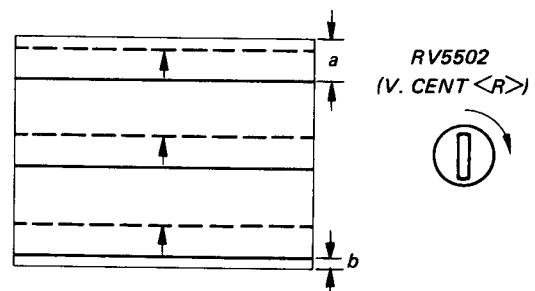

Fig. 3-13
- ③ V. CENT<R>RV5502 D board
C) Adjust RV5502 (V. CENT<R>) so that "a" is equal to "b" as shown in Fig. 3-13.